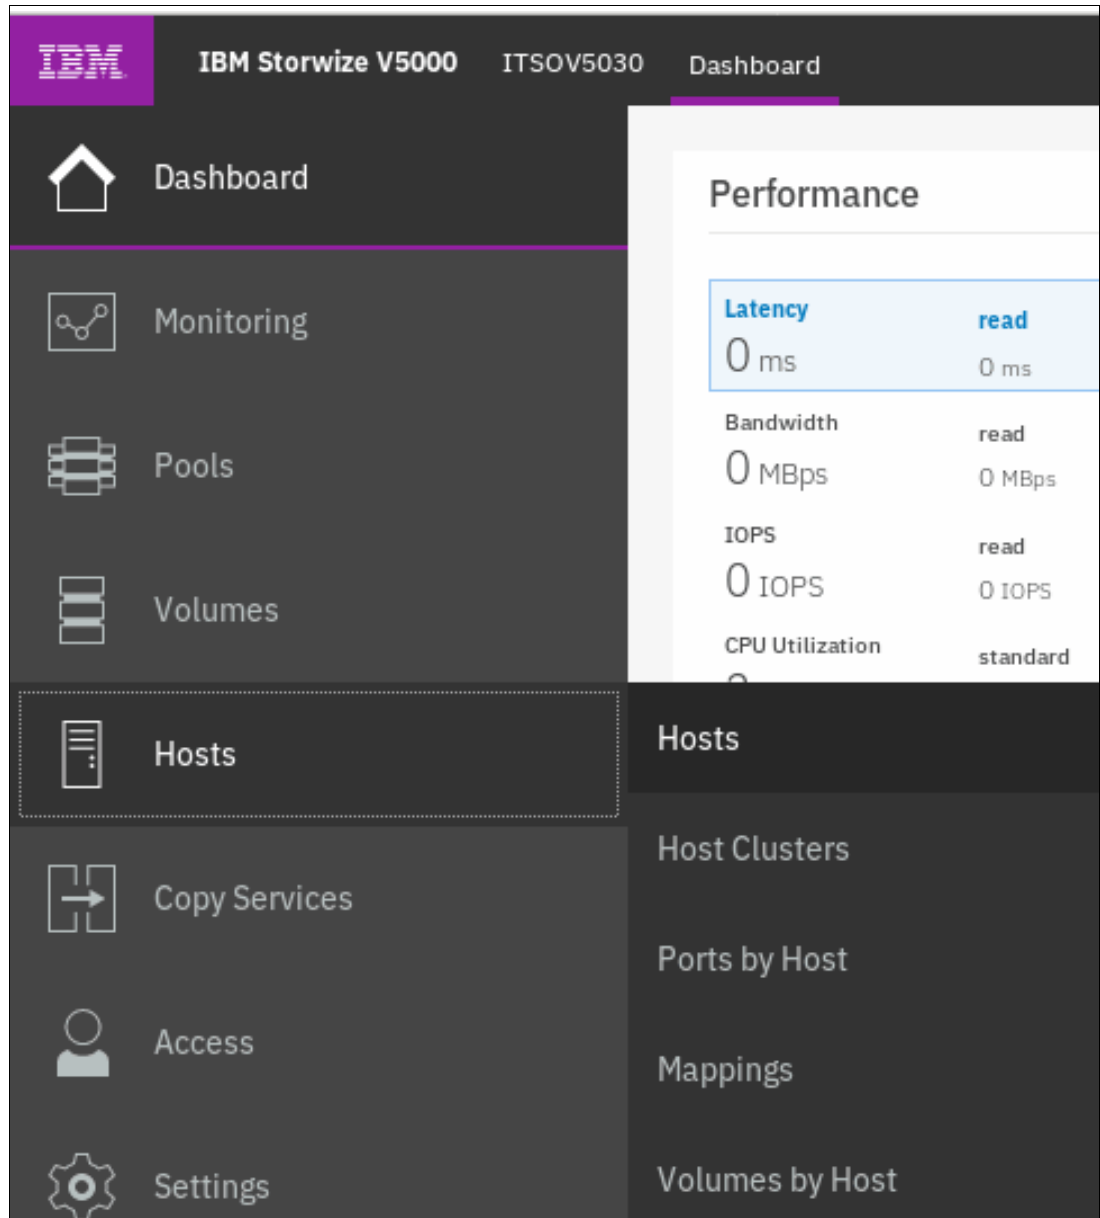

Figure 5-38 Open the Hosts window
1. Open the Hosts configuration window by clicking **Hosts** on the host window, as shown in Figure 5-38.